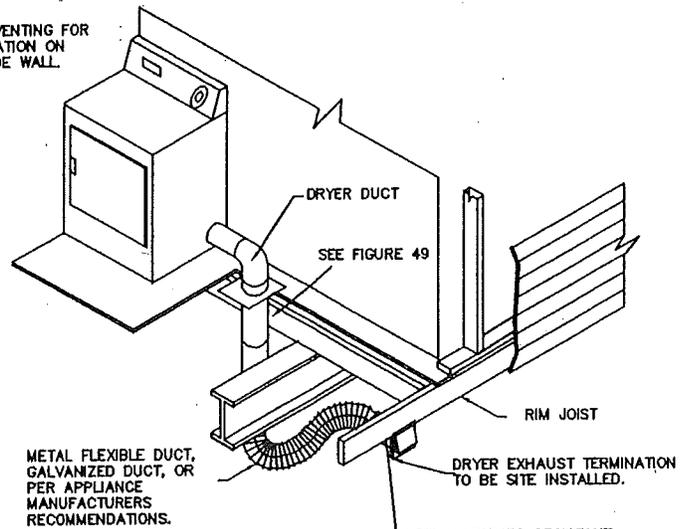

FIGURE 51
1. An access panel is located in the dryer area to provide access to the dryer end of the duct system. See Figures 51 and 52.
2. Access to rough in from outside may be located on the bottom side of the floor or on an exterior wall. See Figure 51.
3. The exhaust system shall be completed on site as shown with materials provided by the owner. See Figures 51 and 52.